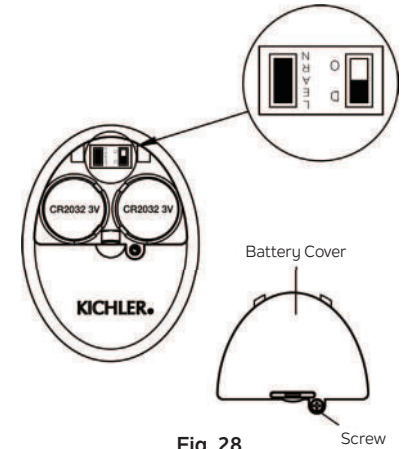

Fig. 28
Otherwise the remote control will not work. To perform this process manually, follow steps below: After installing and wiring the unit, restore power to your fan, press and hold the “LEARN” key for 1-3 seconds, and the fan will turn on at medium speed and light (if installed) will turn on. This confirms that the learning process has been completed. This operation must be completed within 30 seconds after restoring power to the fan. (Fig. 28)
NOTE: Ensure slide switch in battery compartment marked “D O” is set to “D” position. (Fig. 28)
Step 4. Replace the battery cover and tighten with screwdriver. (Fig. 28)